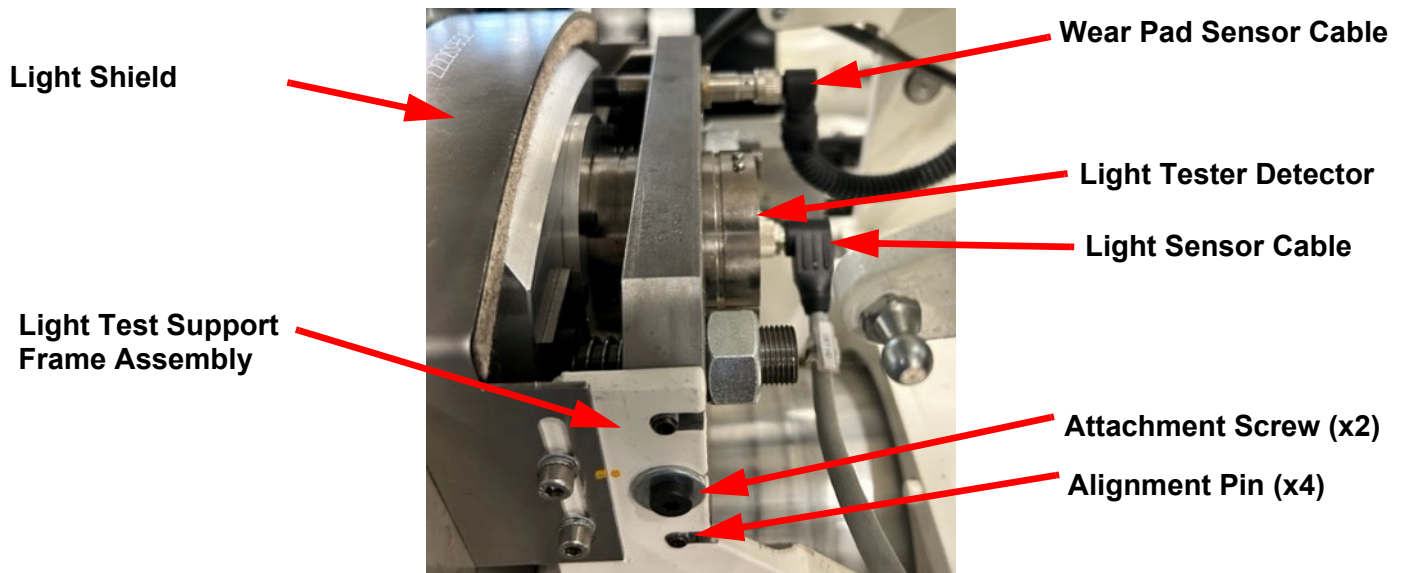

Figure 1-3. Light Tester Detector Location
2. Access the rear of the Turret Disc to remove the Light Tester Detector. Refer to Figure 1-3, page 1-3.